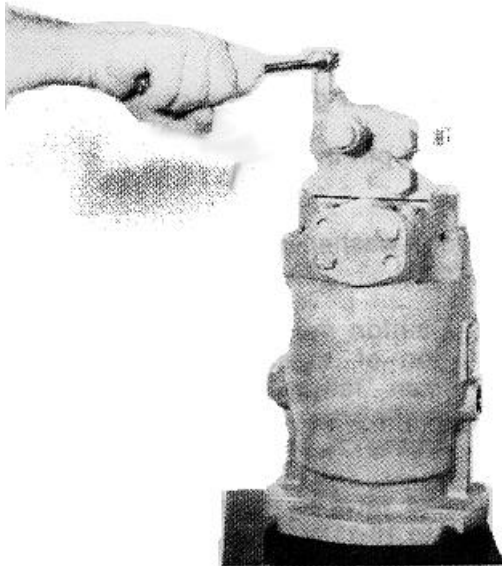

FIGURE 7-53.
c. Remove the four (4) corner bolts holding the manifold to motor end cap (see figure 7-53).